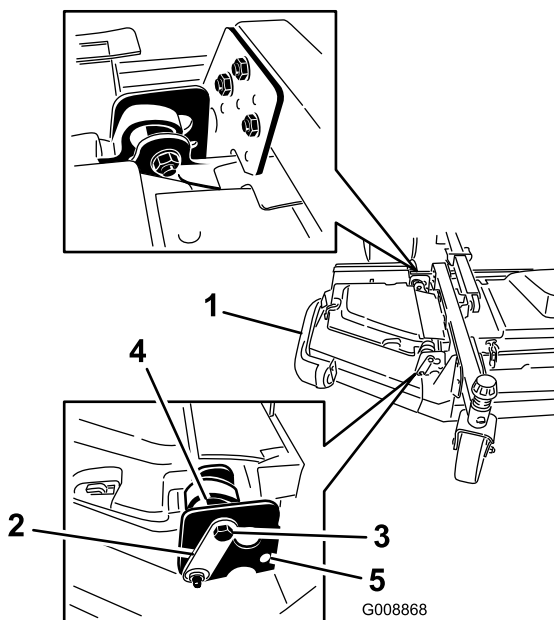

Figure 7
2. Loosen the bolts and nuts securing the 2 eccentric spacers to the winglets (Figure 7).
4. Rotate the rear (closest to the traction unit) eccentric until the outside blade tip is about 3 mm (1/8 inch) higher than the desired height of cut (Figure 7).